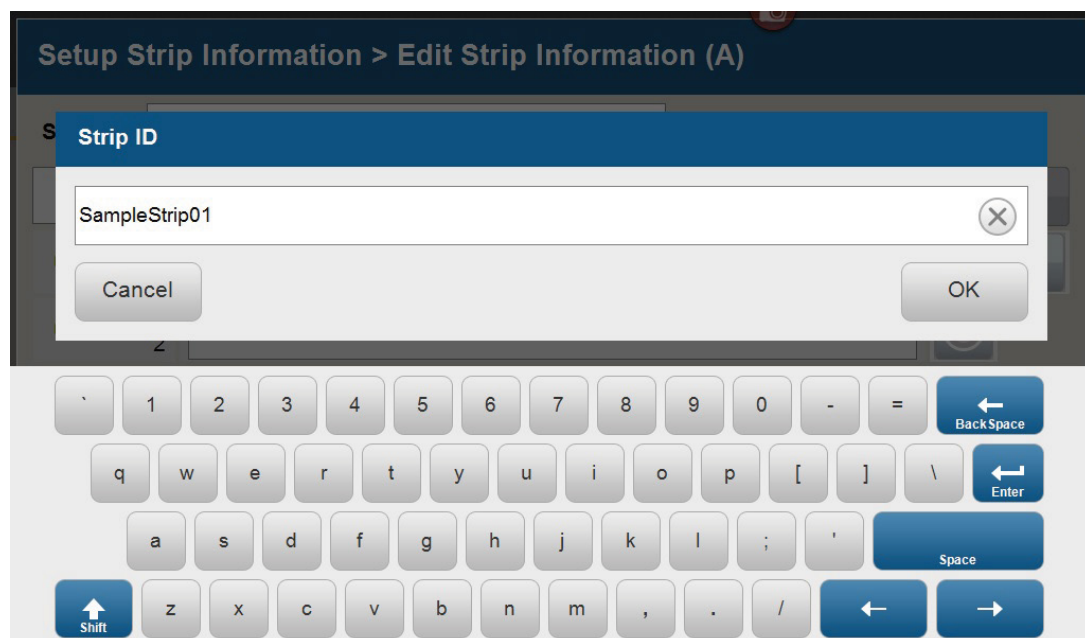

Figure 11. 'Set Strip ID' window.
3. The default Strip ID is date and time. It can be modified by selecting the **Strip ID** box. This opens the 'Set Strip ID' window and a keypad will become active on the touch screen (Figure 11). Alternatively, the Strip ID can be entered using a traditional keyboard if one is connected to the Spectrum Compact CE System. Enter the appropriate Strip ID, and then select **OK** to exit and return to the 'Edit Strip Information' screen.